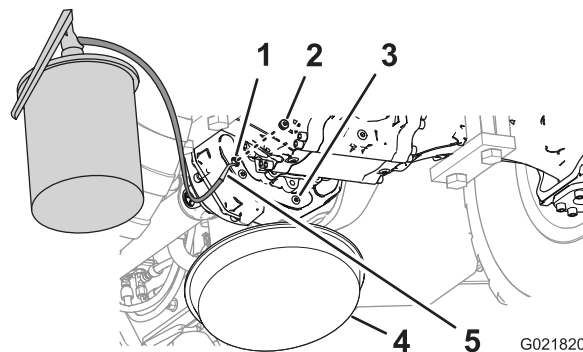

Figure 75
5. Install one of the plugs into the drain port of the transmission (Figure 75).
6. Fill the transmission with the specified oil through the sight port until the oil is level with the threads at the bottom of the port (Figure 75).
8. Install the remaining plug in the sight port of the transmission (Figure 75).